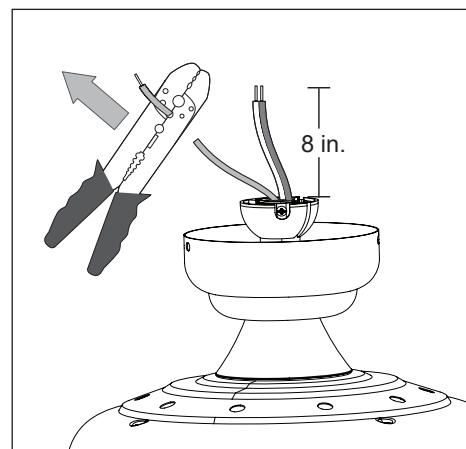

Figure 3.3
3. Depending on the length of downrod you use, you may want to cut the fan wires to simplify wiring. After pulling the wires all the way through the downrod, measure 8 inches of wire. Cut off the excess wire using wire cutters (not included). Then strip 1/2 inch of insulation from the end of each wire strand (Figure 3.3).